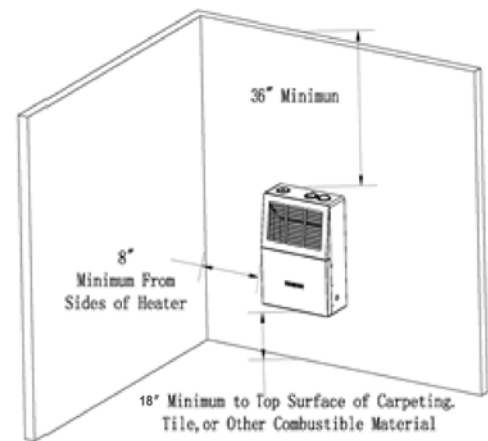

Figure 5 - Mounting clearances from combustibles
**WARNING:** Maintain the minimum clearances shown in Figure 5. If you can, provide greater clearances from floor, ceiling, and joining wall.